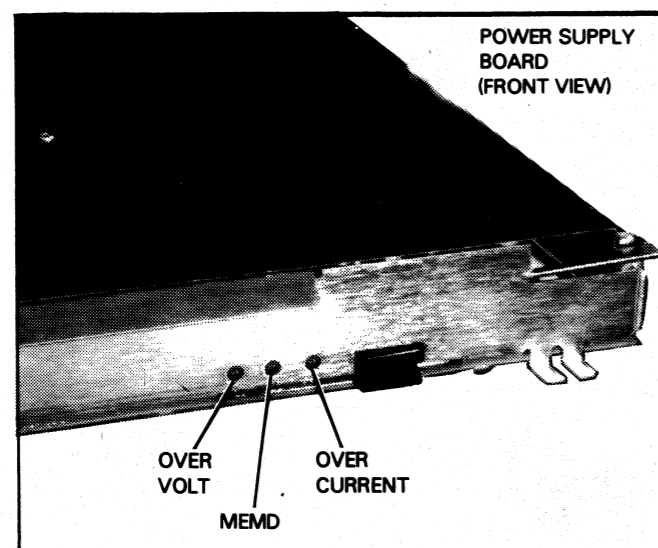

Figure 6.2 Power Supply Board Indicator Lights
The 16-slot chassis has three additional indicator lights which give further status information. These lights are located on the front of the power supply board as shown in Figure 6.2.
2. Check the indicator lights on the front end of the power supply board (see Figure 6.2). If they are all out, go to "Voltage Checkout"; otherwise, turn the power off and then on again. If any of the lights turn on again, follow the procedure below for the lights which are on. Whenever you replace a unit, repeat this step.